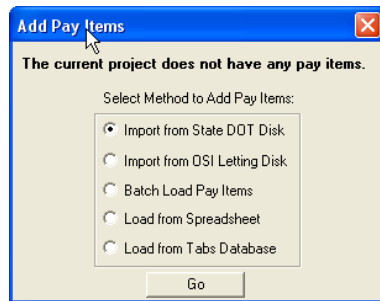
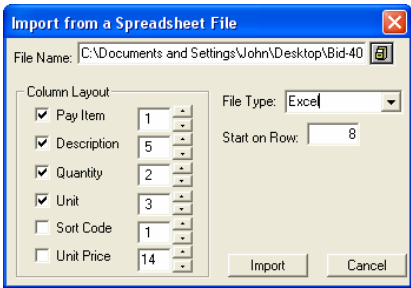

Figure 2.3
Figure 2.6
- Select “Import from State DOT Disk” from the screen shown in Figure 2.3 and press GO.
There are two ways to batch load pay items into a project: The first way is after you have named your new project and are at the screen shown in Figure 2.3, select the “Batch Load Pay Items” option. It will open a Master database of all standard pay items for the selected state. See Figure 2.5. Use this screen as you would a typical spreadsheet screen. You can use the cursor key (Up, Down, Left, Right Arrow Keys) to move the highlighted cell around the screen.
After selecting “Load from Spreadsheet” from the “Add Pay Items Window” (shown in Figure 2.3), the following screen (Figure 2.6) is displayed:
Column Layout These fields allow you to select the items to import and the column number (in the spreadsheet file) that contains the data. If an item is **NOT CHECKED**, that item will **NOT** be loaded into PLUS. For example, if the pay item numbers were in column three of an Excel spreadsheet, you would select 3 next to pay item in the window in Figure 2.6. Do the same for all columns you want to import.